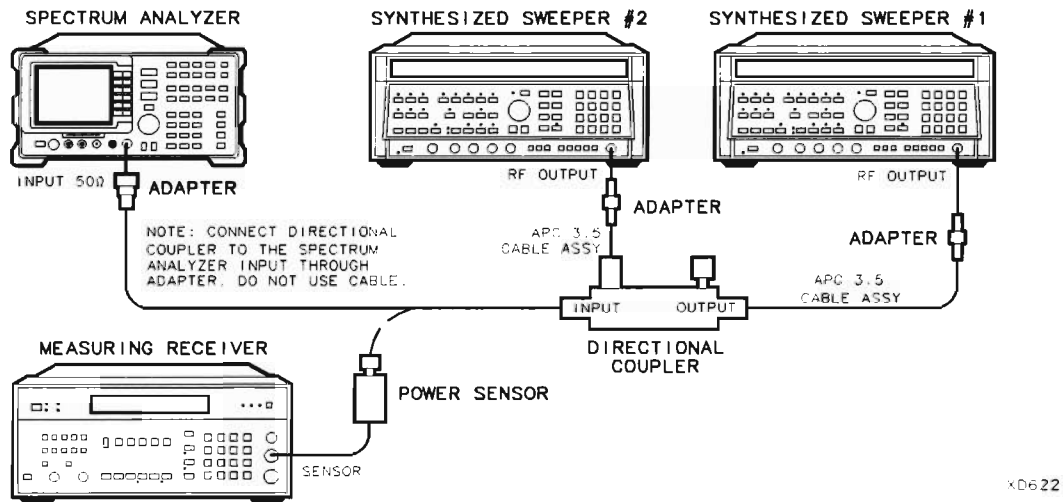

Figure 2-50. Third-Order Intermodulation Distortion Test Setup
10. Connect the equipment as shown in Figure 2-50 with the input of the directional coupler connected to the power sensor.